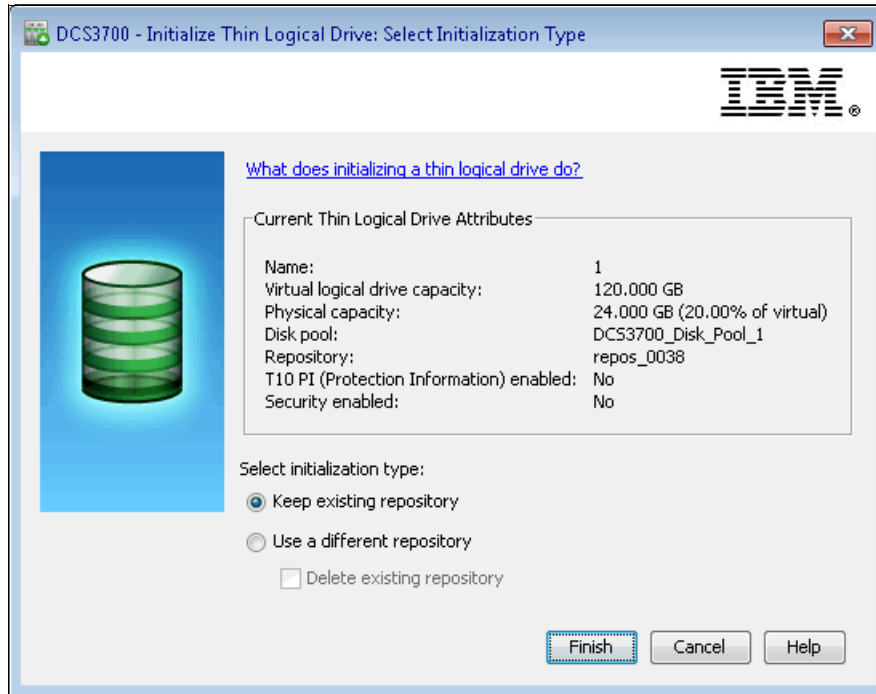

Figure 8-58 Initialize a thin logical drive with the same physical capacity
- ▶ **With the Same Physical Capacity:** If you want to keep the same physical capacity, the logical drive can keep its current repository logical drive, thus saving initialization time. This option is shown in Figure 8-58.